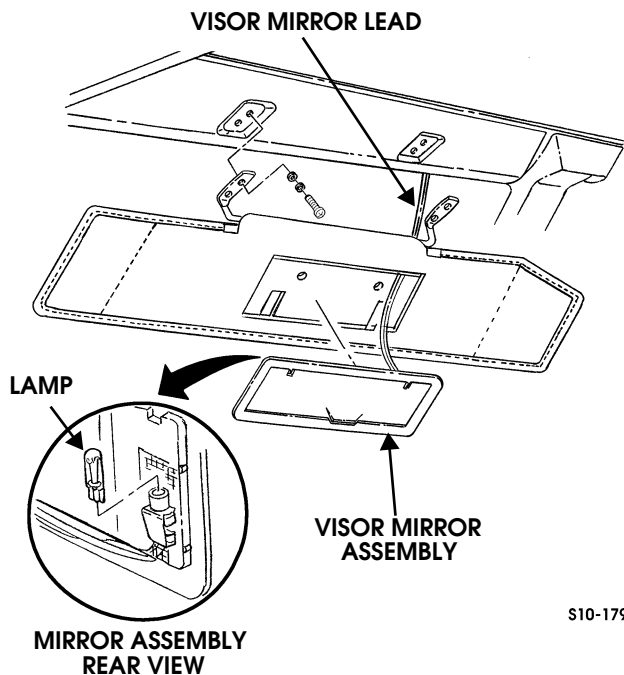

Figure 10-168: Lighted Visor Mirror Replacement
1. Pull mirror assembly from visor (Figure 10-168).
1. Install lamp (Figure 10-168).